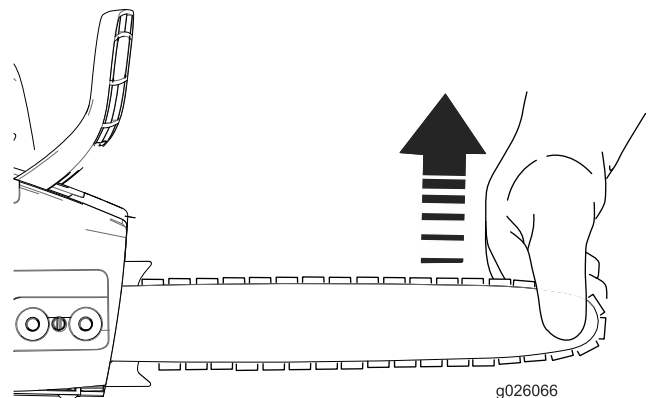

Figure 3
8. Hold up the tip of the bar (Figure 3).